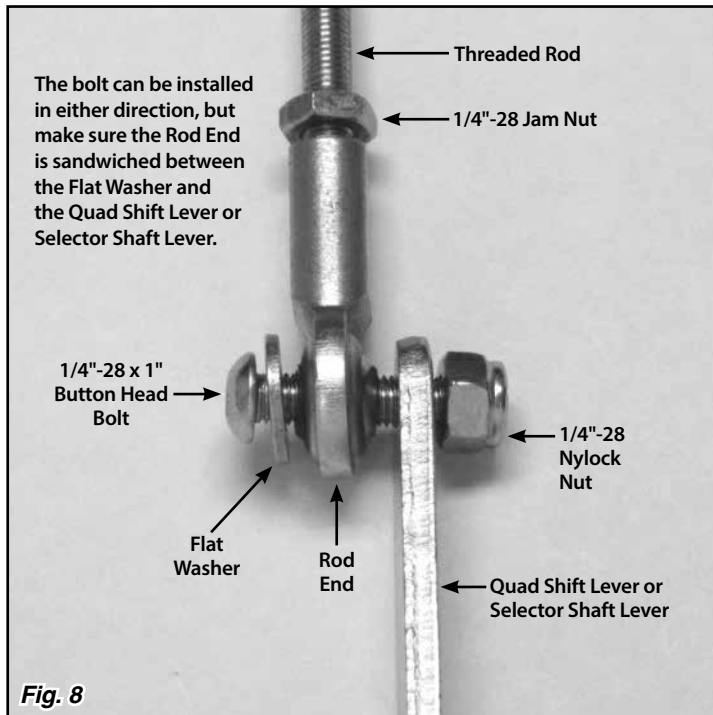
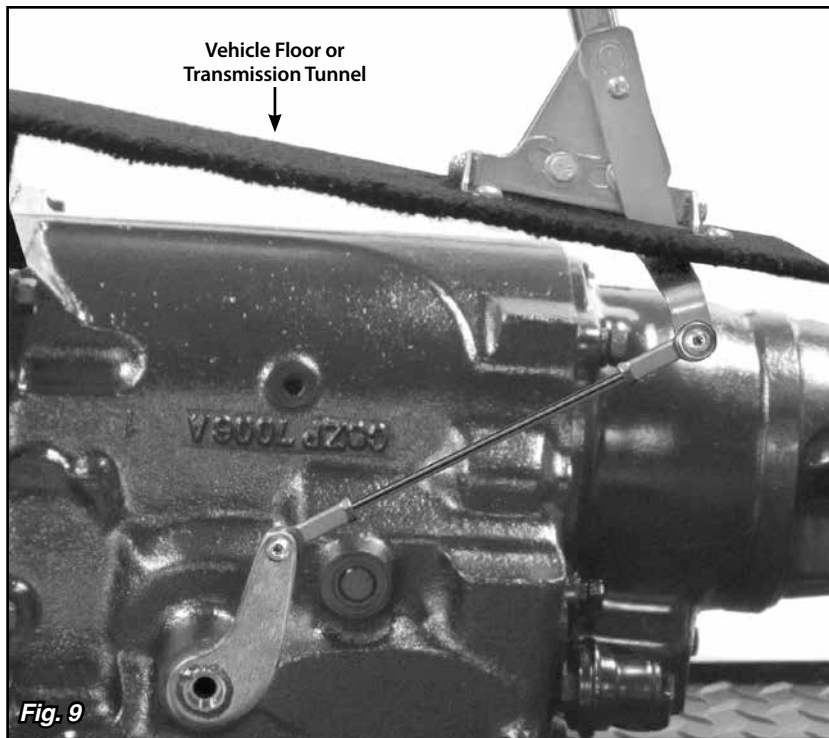

Fig. 8
Fig. 9
Step 13: Make sure that two 1/4"-28 jam nuts are installed on the threaded rod, one at each end. Install a rod end onto each end of the threaded rod. Position the rod ends on the inside or outside of the quad shift lever and selector shaft lever so that the threaded rod is as straight as possible. Attach the threaded rod assembly to the quad shift lever and selector shaft lever using the 1/4"-28 x 1" button head bolts, flat washers, and nylock nuts as shown in **Fig. 8**. The button head bolts can be installed from either direction, but make sure the rod ends are sandwiched between the flat washers and the quad shifter lever or selector shaft lever. **Fig. 9**